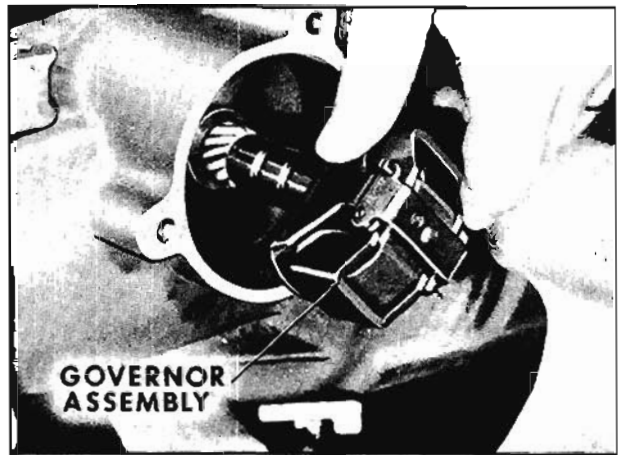

Fig. 6-475 Installing Governor Assembly
1. Slide governor into its bore in case. Turn governor assembly so teeth on governor gear engage teeth on output shaft. (Fig. 6-475)